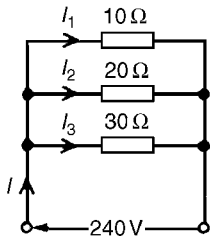

Figure 5.22
- (b) The parallel circuit is shown in Fig. 5.22. The equivalent resistance R_T of $10\ \Omega$, $20\ \Omega$ and $30\ \Omega$ resistance's connected in parallel is given by: